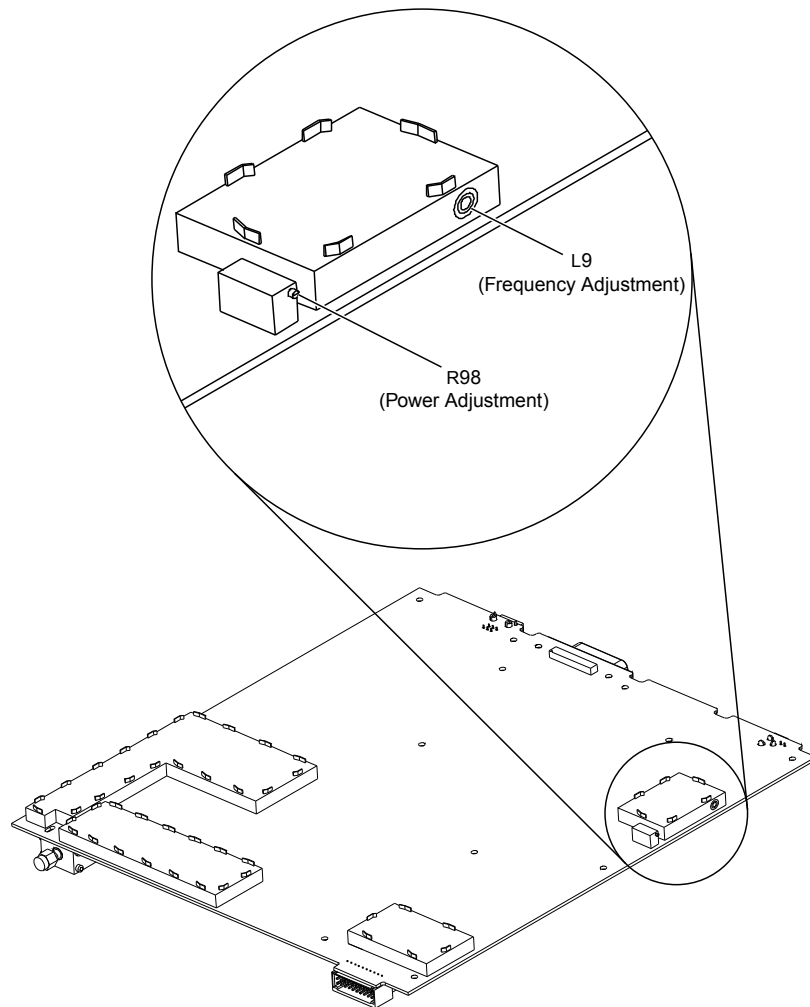

Figure 2-3 Power Reference Oscillator Adjustment Locations
- 10 Insert a small, non-conductive, slot-type adjustment tool into the hole in the side of the power reference oscillator shield (see Figure 2-3). This opening allows access to L9, the adjustable inductor that is used to adjust the frequency of the power reference oscillator.
- 7 Use a non-metallic, slot-type adjustment tool to adjust the setting of R98 on the main circuit board (see Figure 2-3) until the power level is as close to 1.000 mW as possible (the level must be between 0.988 mW and 1.012 mW). Turn the adjustment tool counter-clockwise to increase the power level or clockwise to decrease the power level.
- 22** Use a non-metallic, slot-type adjustment tool to adjust the setting of R98 on the main circuit board (see Figure 2-3) until P_{rf} is between 0.988 mW and 1.012 mW. Turn the adjustment tool counter-clockwise to increase the power level or clockwise to decrease the power level.